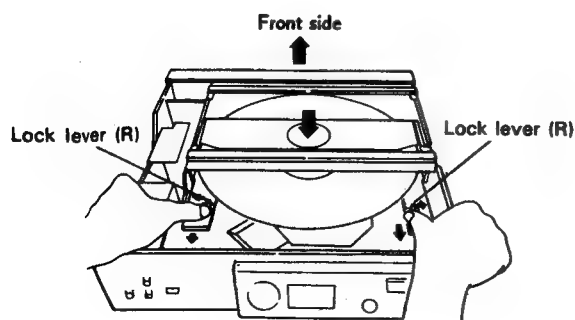

Fig.6
2. Pull the lock levers (L) and (R) toward the rear while being pushed outwards, the clamber is lowered to clamp the disc. Check that the disc has been properly clamped by turning the clamber by hand. (Fig.6)